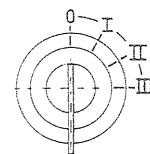
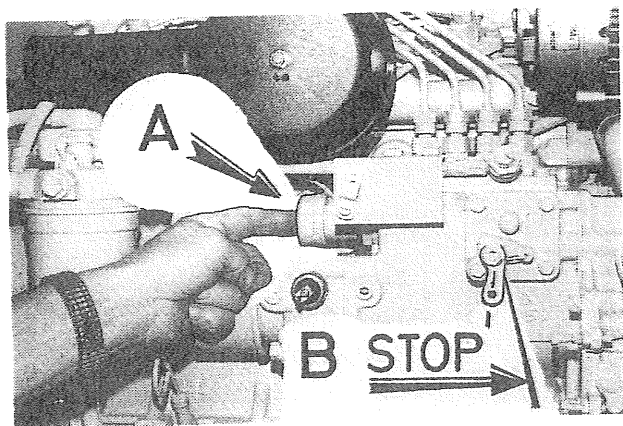
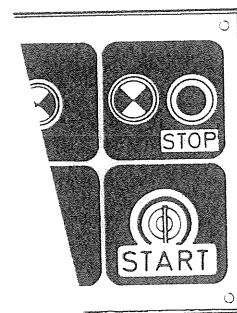

Fig. 15
Fig. 16
Fig. 17
- 0 NØKKEL: Settes i (eller trekkes ut) (fig. 15).
- 0 KEY: Insert key (or pull out) (fig. 15).
- II GLOW: Hold the starter switch key (fig. 15) on pre-heat position for 10—30 sec. to heat the glow plugs. The time of heating depends on ambient air temperature.
STOPP (side 23, fig. 16 og 17):
Stopp motoren ved å trykke inn stoppknappen (fig. 17). (Hvis stoppknappen holdes nede i mer enn 10 sekunder, kan stoppsolenoiden (A, fig. 16) ødelegges.) Slå av batteribryteren.
Der finnes også en nødstopphendel (B, fig. 16) på brennoljepumpen. Denne kan brukes hvis den elektriske stoppen ikke virker.
STOPPING (Page 23, fig. 16 and 17):
Stop the engine by pushing down the stop button (fig. 17). Turn off the charging switch and the battery main switch. (If stop button is pressed for more than 10 sec., the stop solenoid (A, fig. 15) may be damaged.) Turn off battery switch.
An emergency stop lever (B, fig. 16) located on injection pump to be used if electric stop control is out of order.